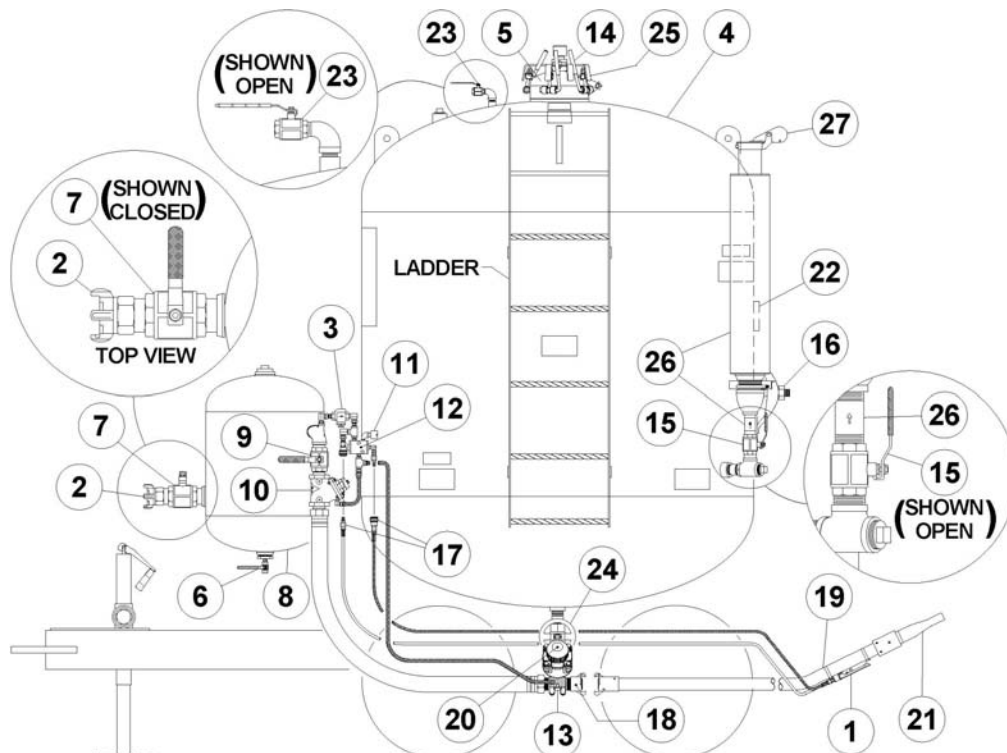

Figure 6.2 – Typical Bulk Abrasive Blaster
6.1 Bulk Abrasive Blaster Setup Procedure (see Figure 6.2 or Figure 8.7)
- 6.1.4. Do Not operate this equipment without the pressure indication ball valve (#23) in place. This is an added feature that allows the operator to verify that the bulk abrasive blaster is completely depressurized before attempting to open the closure. See Figure 6.2.
- 6.2.1. Close the air inlet ball valve (#7). The ball valve is closed when the handle is fully turned to the position shown in Figure 6.2 (handle perpendicular to body). The handle tab will bottom against the ball valve body in the closed position.
6.3 Closure Assembly Opening Procedure (See Figure 6.2, 6.3.1 and 6.3.2)
6.3.1. Taking the proper fall protection measures, access the closure (#5) using the bulk abrasive blaster ladder. See Figure 6.2.
6.3.2. The bulk abrasive blaster **MUST** be completely depressurized before attempting to open the closure assembly (See Section 6.2). Verify that the abrasive blaster is completely depressurized by opening the pressure indication ball valve (#23) next to the closure (see Figure 6.2). If any air leakage occurs, **DO NOT CONTINUE**. Follow the depressurizing procedure in Section 6.2. **DO NOT** depressurize the bulk abrasive blaster through the pressure indication ball valve (#23).